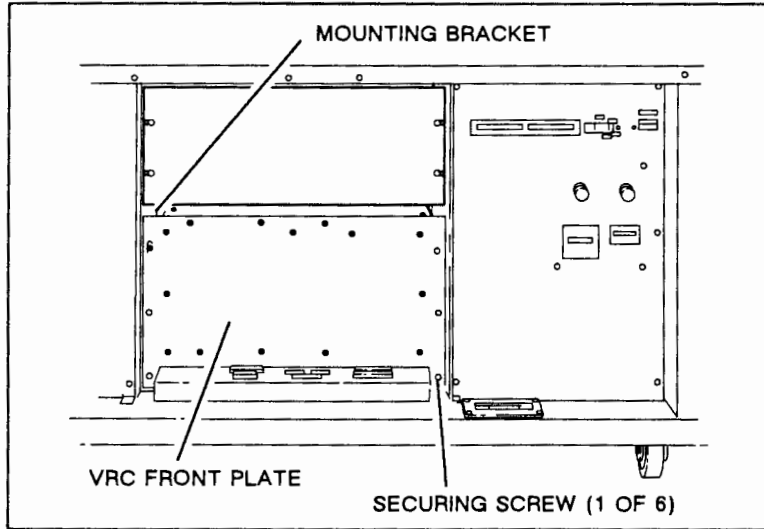

Figure 2-9. Securing the VRC Front Plate
- g. Secure the front plate of the VRC to the VRC mounting brackets on either side of the VRC opening using the hardware supplied. See Figure 2-9. Ensure that a washer is mounted on each screw; so that the washer will be between the screw head and the front plate when the screw is installed.